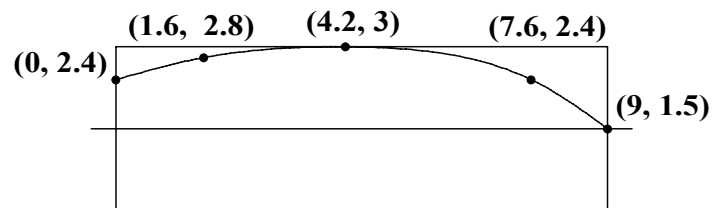

FIG. 2
Step 9. Move cursor to coordinates **(0, 2.4)** and click for Point 1, **Fig. 2**. Use the Cursor Tracking Window located in the lower-left corner of the display to view the coordinates.
Step 10. Move cursor to coordinates **(1.6, 2.8)** and click for Point 2, **Fig. 2**.
Step 11. Move cursor to coordinates **(4.2, 3)** and click for Point 3, **Fig. 2**.
Step 12. Move cursor to coordinates **(7.6, 2.4)** and click for Point 4, **Fig. 2**.
Step 13. Move cursor to coordinates **(9, 1.5)** and click for Point 5, **Fig. 2**.